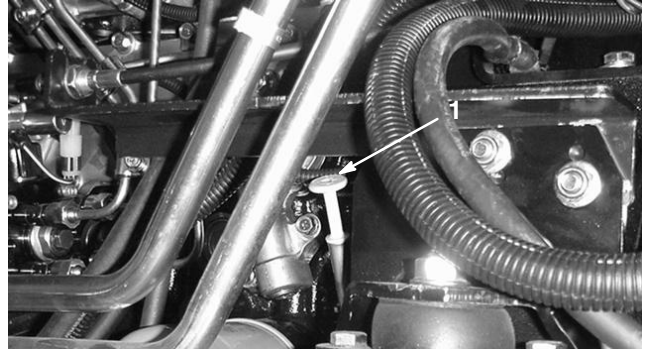
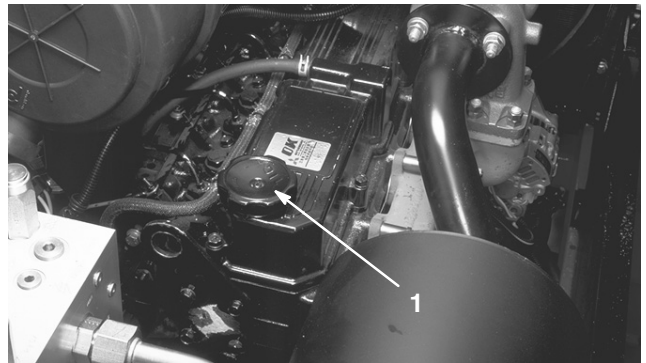
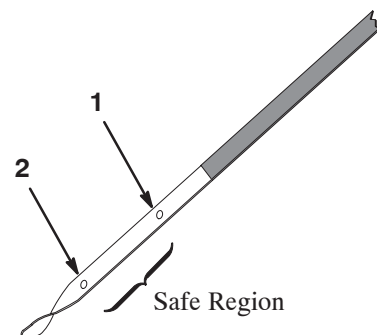

Figure 35
Figure 36
Figure 37
2. Remove dipstick, wipe with clean rag (Fig. 35) and fully insert in tube. Remove from tube and check oil level. Level should be between the lower and upper holes on the dipstick (Fig. 37).
3. If level is low, remove filler cap (Fig. 36). Add proper type of oil until level is between the holes on the dipstick (Fig. 37). **Do not overfill.**